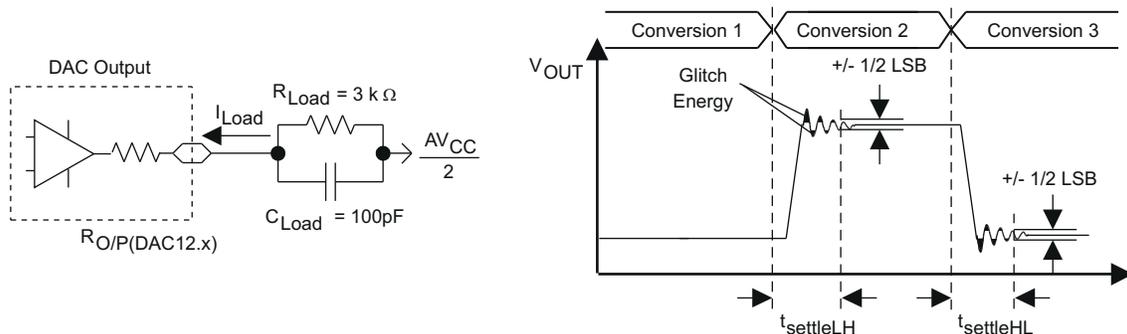
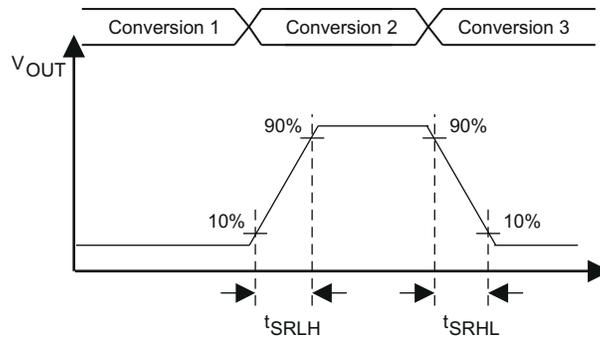

Figure 8-25. Settling Time and Glitch Energy Testing
Figure 8-26. Slew Rate Testing
V_{ref} = V_{CC}, DAC12IR = 1, over recommended operating free-air temperature range (unless otherwise noted) (see Figure 8-25 and Figure 8-26)
- (1) R_{Load} and C_{Load} connected to AV_{SS} (not AV_{CC}/2) in Figure 8-25.
- (2) Slew rate applies to output voltage steps ≥ 200 mV.